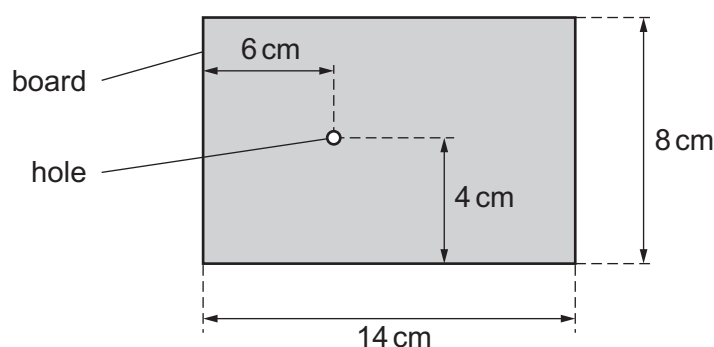

Fig. 2.1 (not to scale)
- 1 Drill a hole of diameter 4.5 mm through the wooden board at the position shown in Fig. 2.1. Hammer the nail through the hole up to its head.